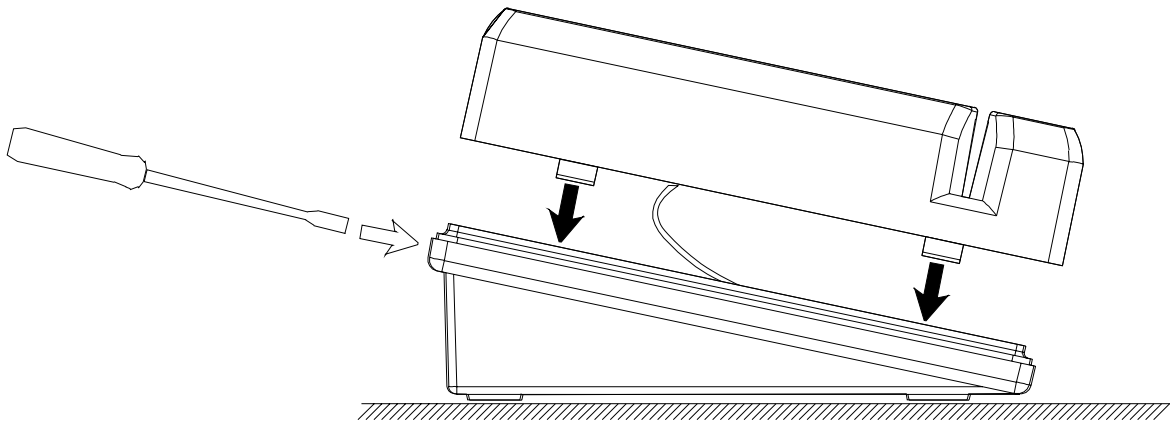

Figure 12. Closing the Terminal (Turnstile-Mounted Assembly)
2. Insert the upper shell as indicated in Figure 12.